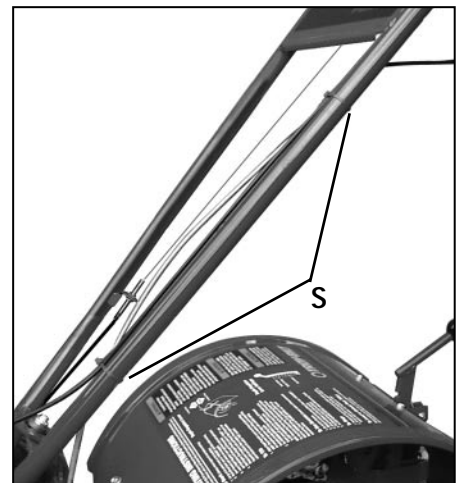

Figure 2-14: Attach wheel gear cable and reverse clutch cable with cable ties (S).
4. Secure the wheel gear cable and the reverse clutch control cable to the left-side handlebar with two plastic ties (S, Figure 2-14) located about two feet apart. Snip off any excess tie length with scissors.